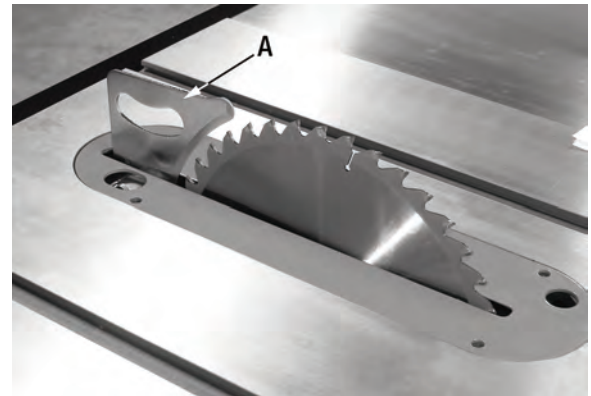

FIGURE 14
Non through-cut operations- For non through-cut operations with a 10" blade, the smaller riving knife (A) Fig.14 must be installed. The riving knife gets installed the same way as the blade guard riving knife, see **Through-cut operations** instructions above.
For safety reasons, the highest point of the riving knife (A) Fig.14 should never exceed the highest point of the blade teeth, generally 1/8" to 3/16" (1-5mm). See Adjustments section for more information.